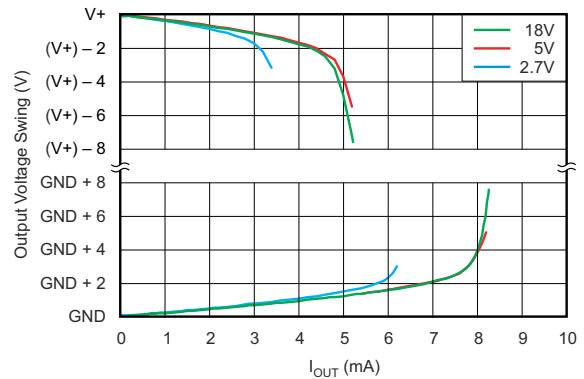
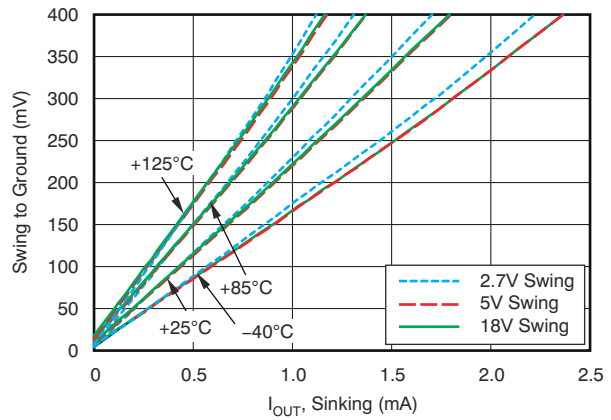

图 6-16. INA284-Q1 Output Voltage Swing vs Output Current
图 6-18. INA283-Q1 Swing to Ground vs Output Current
- (5) See typical characteristic graphs 图 6-16 through 图 6-18.